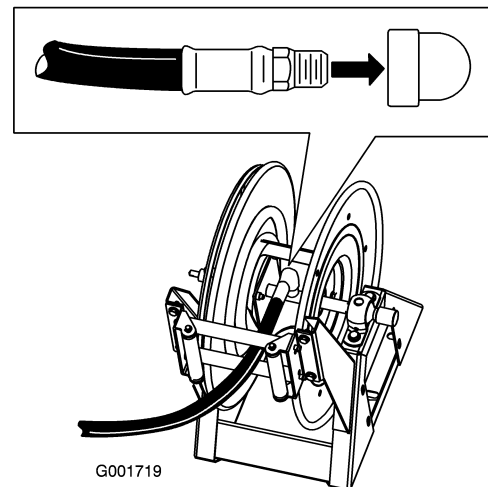

Figure 17
1. Wrap Teflon tape around the threads of the hose fitting on the long hose and install the fitting into the connecting tube on the reel (Figure 17).